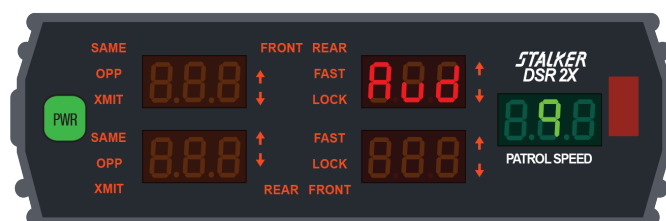

Figure 20
The Number of Antennas Selection mode for the 2X is entered by pressing the remote control **MENU** key 7 times. The $\uparrow$ and $\downarrow$ keys are then used to select 1 (front only) or 2 (front and rear) antennas. Figure 20 shows 2 antennas selected, the factory default. If one antenna is selected, it must be the front antenna. If one antenna is selected, the rear antenna will be turned off.